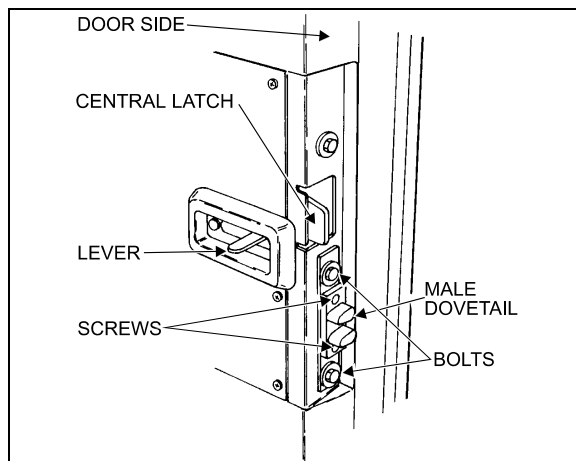

FIGURE 19: DOOR LATCH (COACH) 18059
2. Remove the Allen button head screw and the washer retaining the rod end with bearing to the upper hinge. See figure 19.
3. Remove the Allen button head screw and the washer retaining the ball and socket rod to the upper hinge. See figure 19.
3. Remove the Allen button head screw and the washer retaining the rod end with bearing to upper hinge. See figure 19.
| Latches Upper door catch Door cylinder rod end with bearing grease fitting (Figure 19) | Low temperature grease | Every six months |